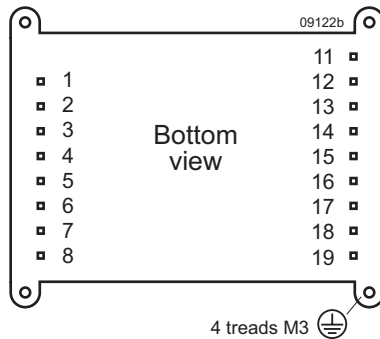

Fig. 15
- Reinforced insulation input to output for 110IMY70 models, basic insulation to the case, based on the input voltage of 150 V. The case can be reliably connected to PE (protective earth) – except option Z; see fig. 15.